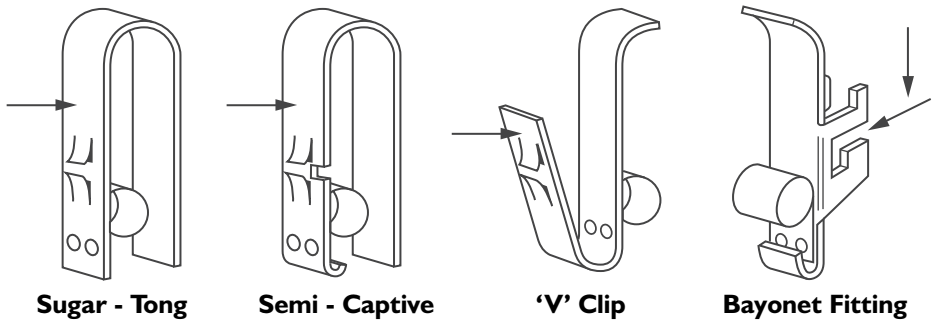

Fig. 8: Various spring types
1. To release the spring unit apply pressure on the latching side of the clip, as shown by arrow in fig 8. This will allow the clip to become free and rise out of the brush box under the tension between spring and brush.